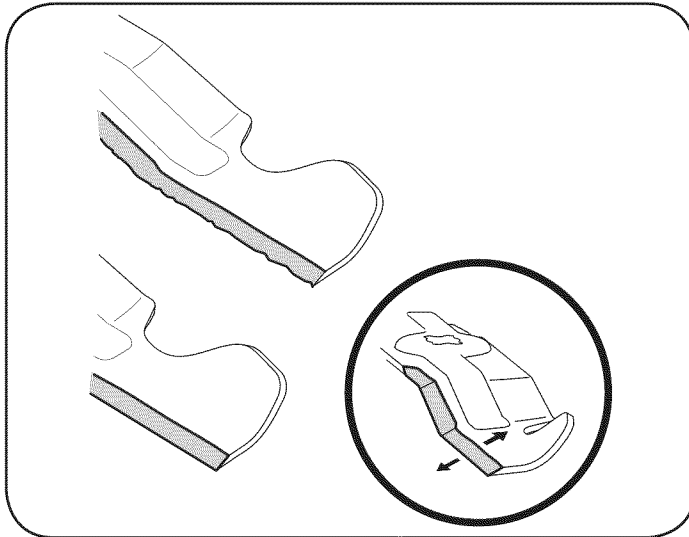

Figure 19
- To properly sharpen the cutting blades, remove equal amounts of metal from both ends of the blades along the cutting edges, parallel to the trailing edge, at a 25° to 30° angle. Always grind each cutting blade edge equally to maintain proper blade balance. See Figure 19.